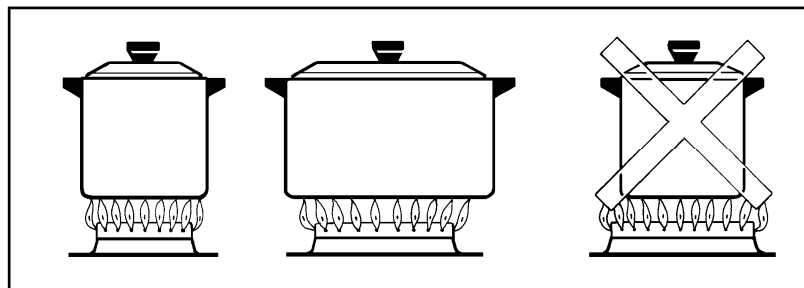

Fig. 8
**Warning** - The pots used on the cook-top burners should not have a concave or convex base but rather, a full base (Fig. 8). They should have the following minimum diameter: